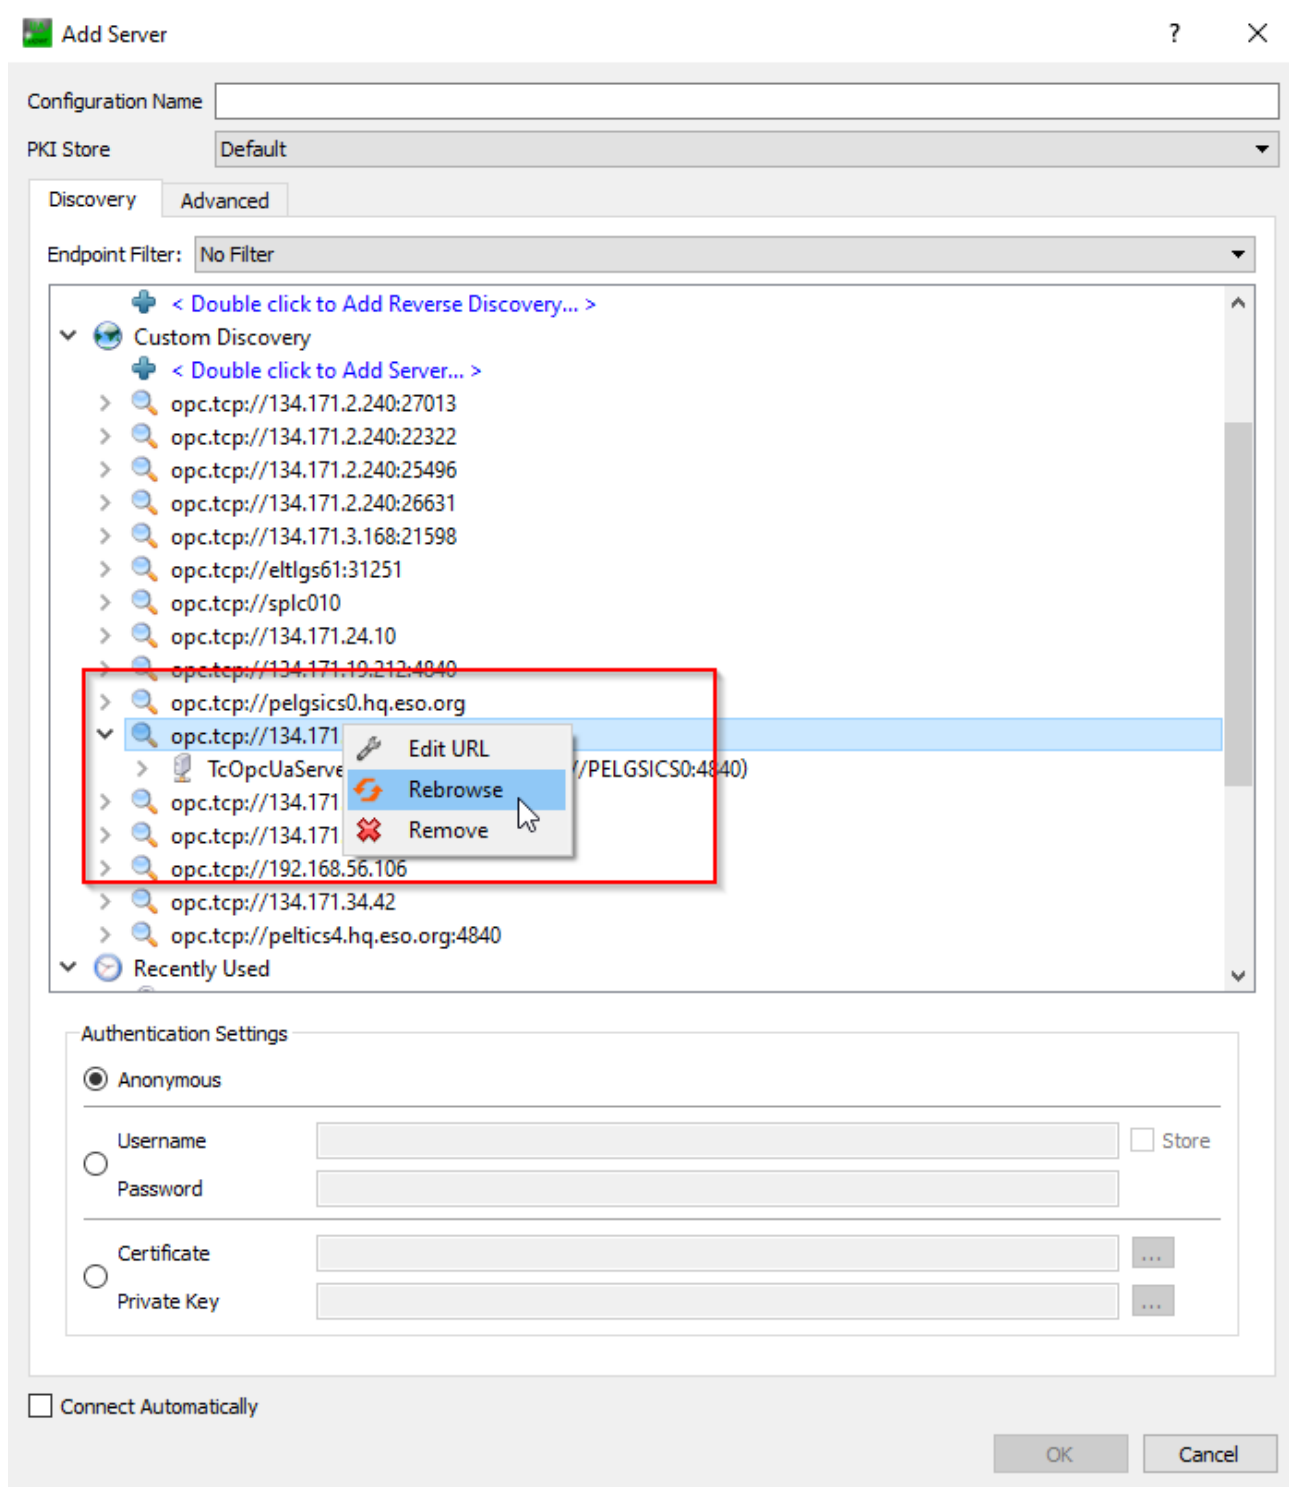

Fig. 4.9: . .
- Now, you should be able to reconnect to the server again using *Basic256Sha256* but now using the *Username* and *Password* that was entered in the previous step. Please note that in case you were using *Custom* discovery in *UaExpert*, you should *Rebrowse* to have the client request for *Username* and *Password*, as it's shown in Fig. 4.9.